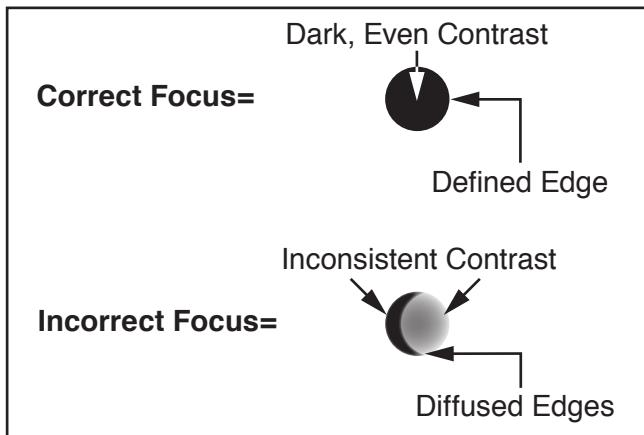

Figure 130. Focal point alignment examples.
21. Close top loading door and verify secondary Mirror #3 and focal point alignment by pressing Pulse button on control panel. Compare results with **Figure 130**.
5. With help from an additional person, rotate thumbscrews behind reference laser until laser beam focal point matches "Correct Focus" example in **Figure 130** on **Page 79**.